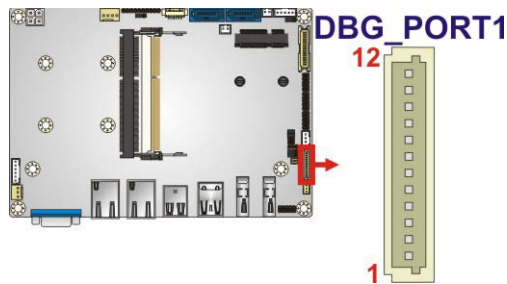

Figure 4-5: EC Debug Connector Location
- CN Location: See **Figure 4-5**